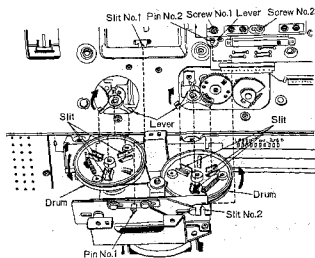

Fig. 20
1. Turn each drum completely in the direction of the arrow, as shown in fig. 20.
2. Turn each tuner lever completely in the direction of the arrow and then set the drum to the same position as the tuner lever, as shown in fig. 20.
3. Insert tuner lever in slit of drum and the pins 1 & 2 in slits 1 & 2, as shown in fig. 20.
4. Adjust the lever of selector unit so that tuning shaft unit changes, as shown in fig. 20.
5. Tighten the two (2) lever screws (nos. 1 & 2), as shown in fig. 20.